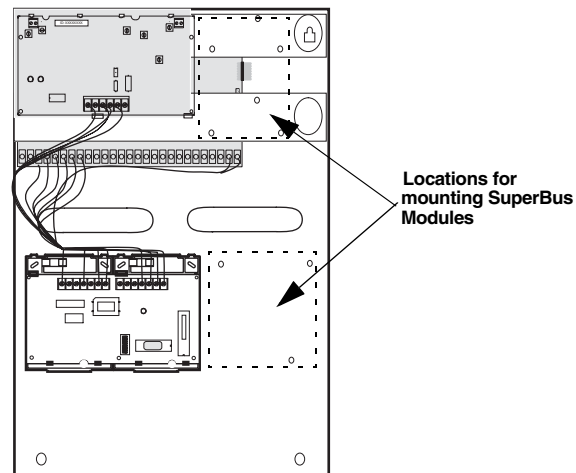

Figure 15. Mounting SuperBus 2000 Modules Inside the Cabinet
- SuperBus 2000 modules can be mounted inside the cabinet either to the right of the Transceiver on the mounting brackets or to the right of the Phone Interface/Voice Module (see Figure 15).